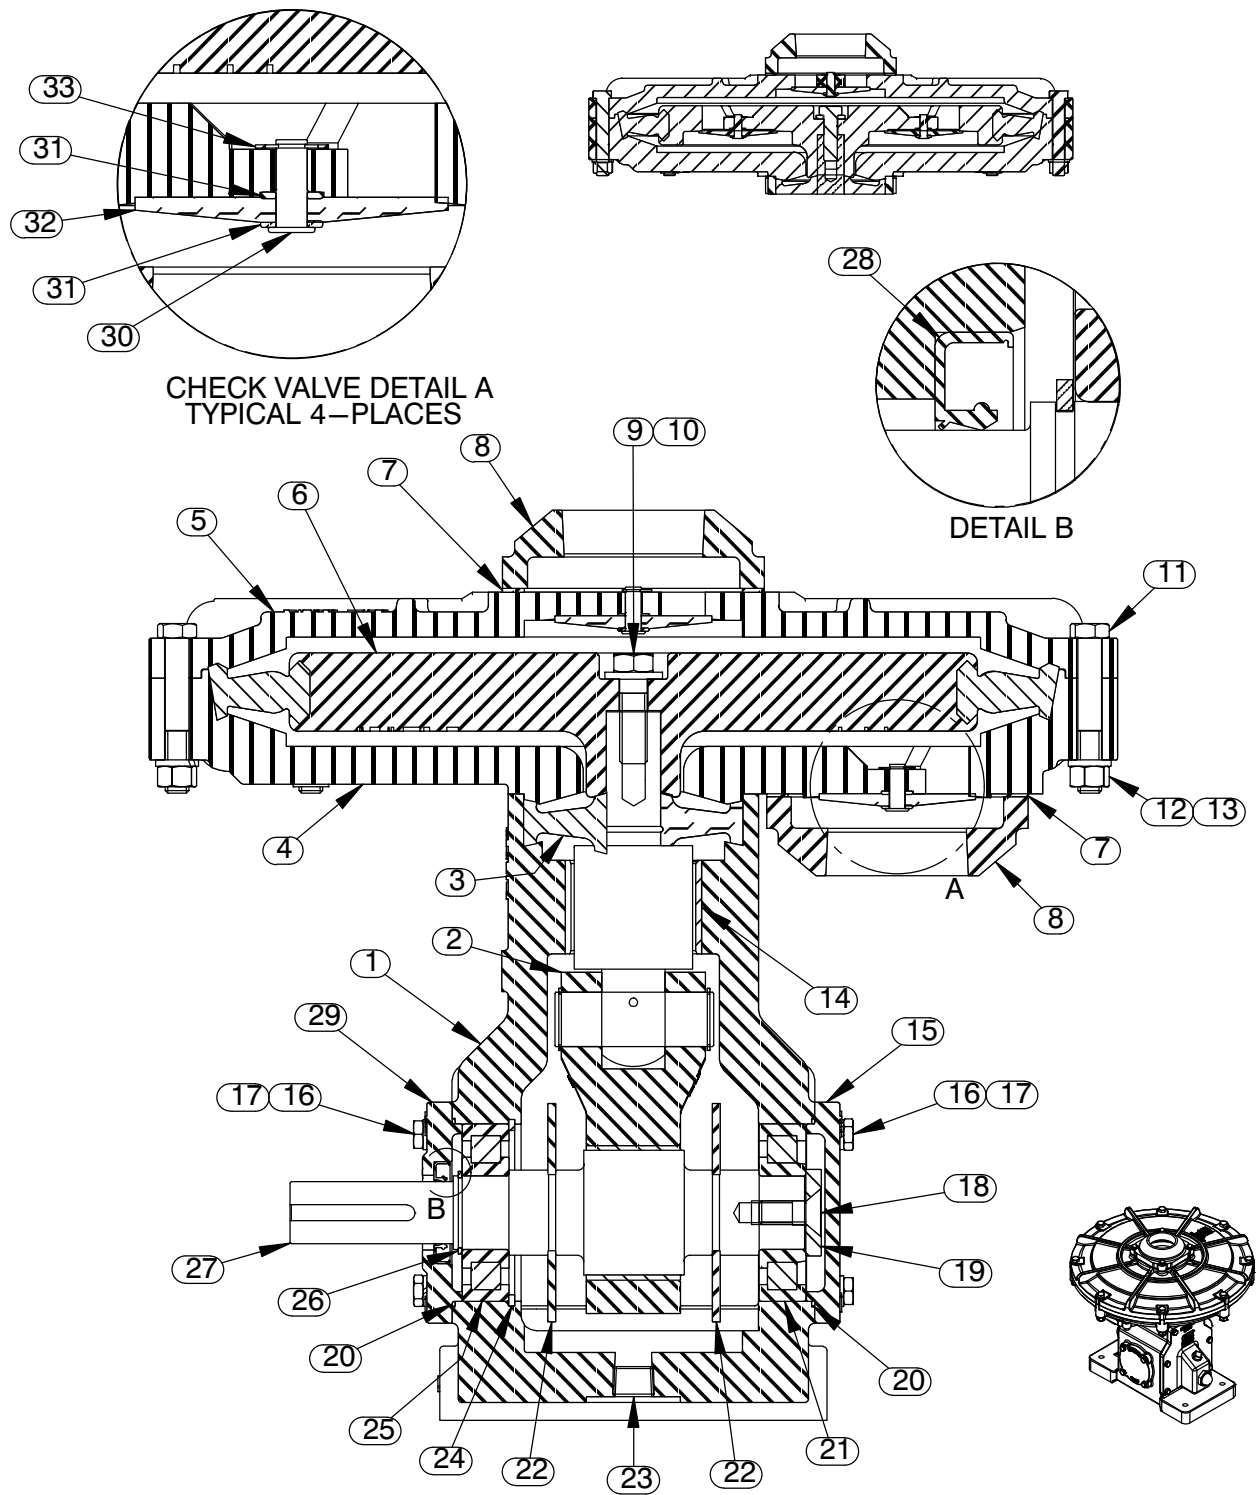

Figure E-1. DIAPHRAGM PRIMER 46141-053
**Diaphragm Primer Disassembly****(Figure E-1 & E-2)**